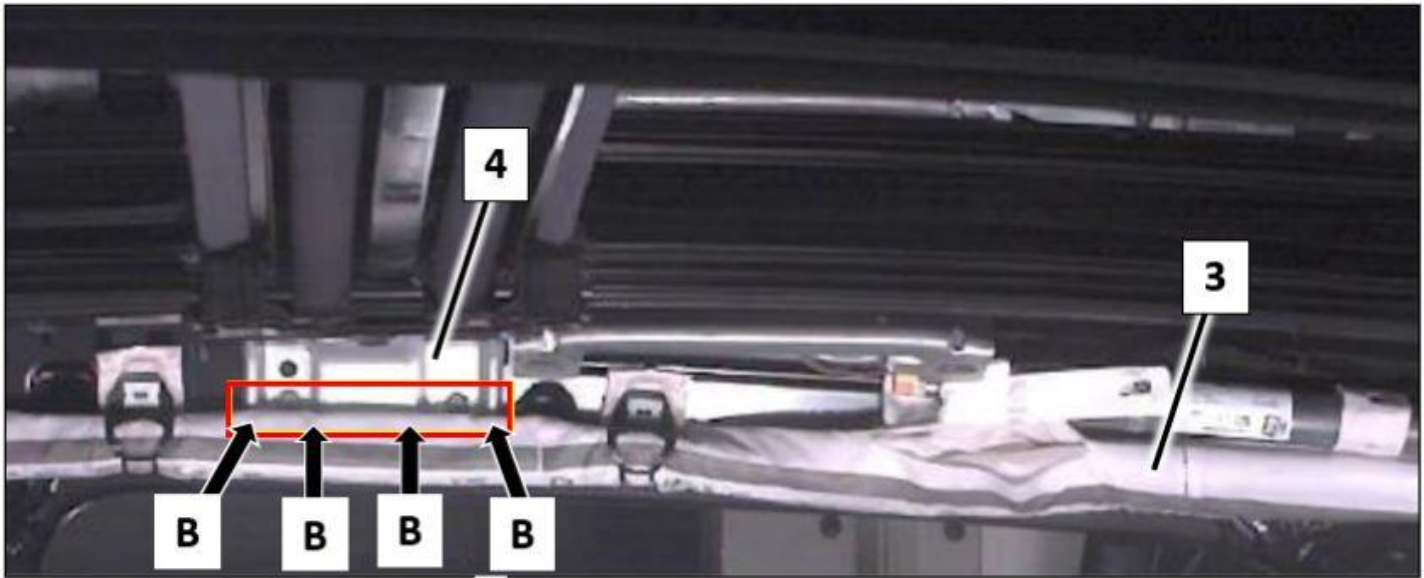

Figure 2
4. Check contact surface of the window airbag sleeve on the left and right window airbags (**Figure 2, 3**) for damage.
i Check lower area of mounting bracket edge (**Figure 2 and 3, B**) for damage.
- a. If window airbag sleeve (**Figure 2 and 3, 3**) is **not damaged**, only perform **Work Procedure A**.
- b. If window airbag sleeve (**Figure 2 and 3, 3**) is **damaged**, perform **Work Procedure A and B**.